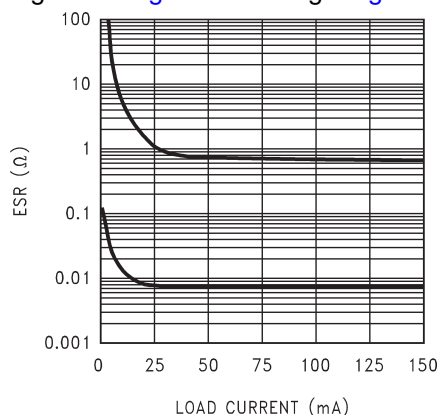
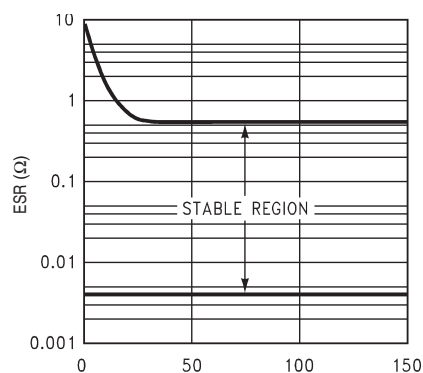

Figure 30. 2.2- μF Stable ESR Range for Output Voltage ≤ 2.3 V
Figure 32. 2.2- μF /3.3- μF Stable ESR Range for Output Voltage ≥ 2.5 V
- ESR range: see Figure 30 through Figure 32